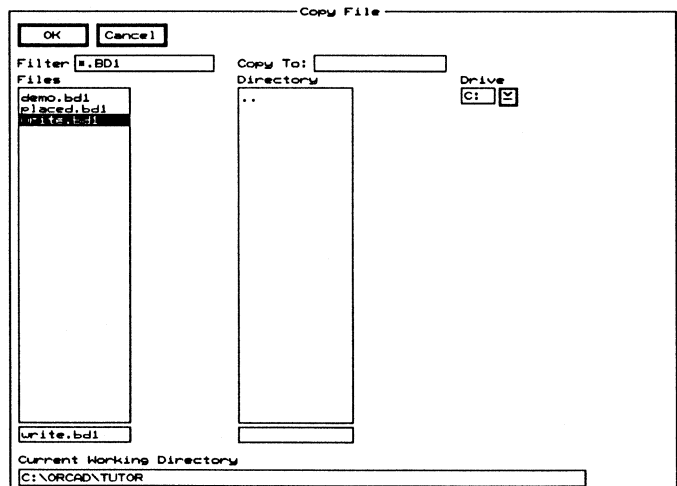

Figure 4-14. The *Copy File* dialog box.
2. Select **Copy**. The **Copy File** dialog box displays (figure 4-14) and WRITE.BD1 is selected in the list box.